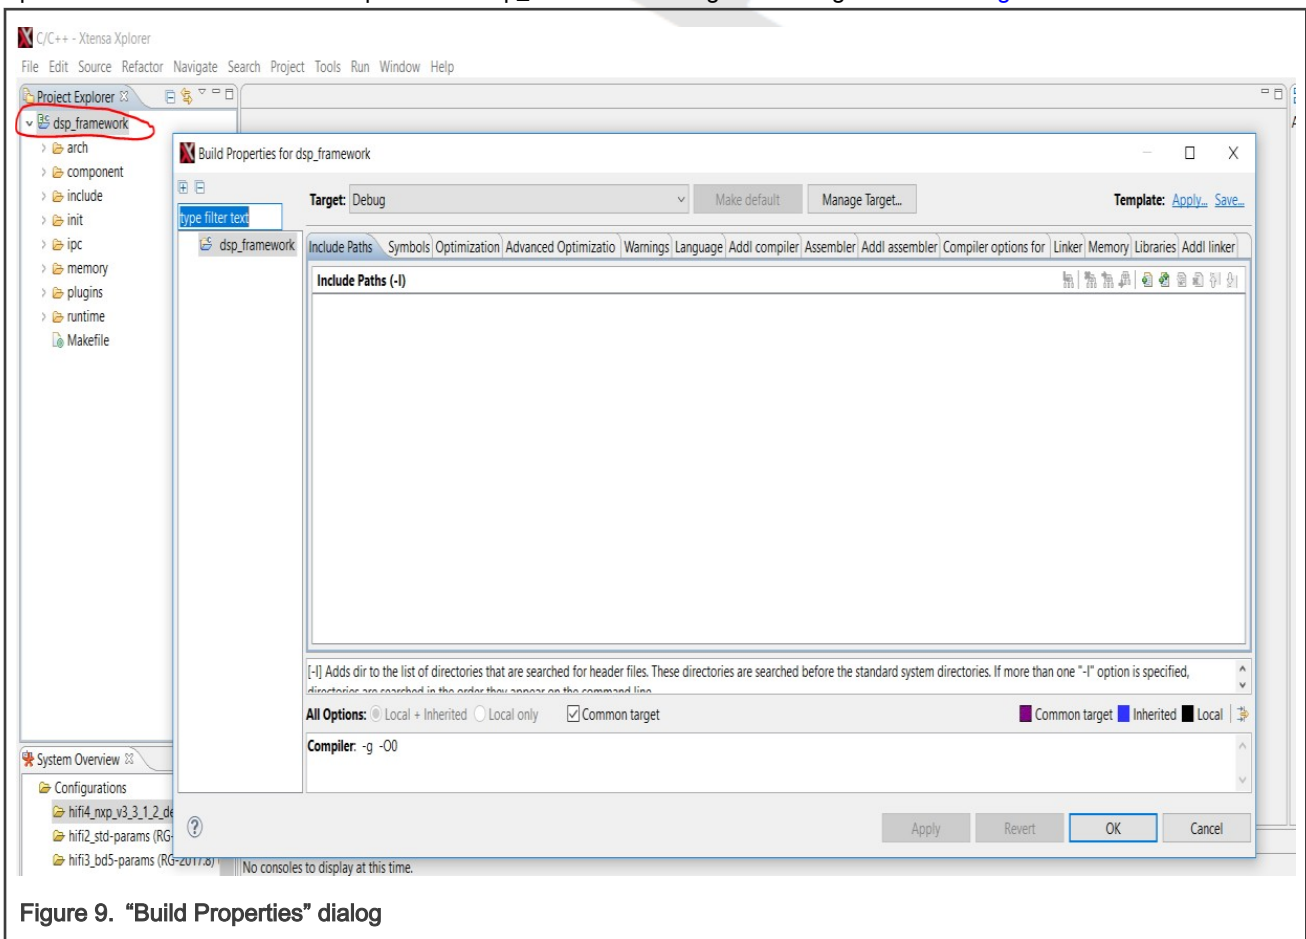

Figure 9. “Build Properties” dialog
- Right-click the name of the DSP framework project in the “Project Explorer” panel and choose the “Build Properties...” option. You will see the “Build Properties for dsp_framework” dialog. The dialog is shown in Figure 9.